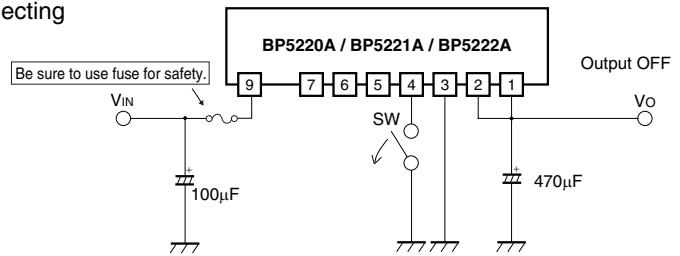

Fig.3
- (2) Switching on and off the output voltage is allowed. The output can be switched off by making pin 4 to be open (high impedance). (See Fig.3)
- (3) Fine adjustment of the output voltage is allowed. The fine adjustment of output voltage can be performed from pin 6 via the resistor by connecting the output terminal (pin 2) or GND. (See application example 3)